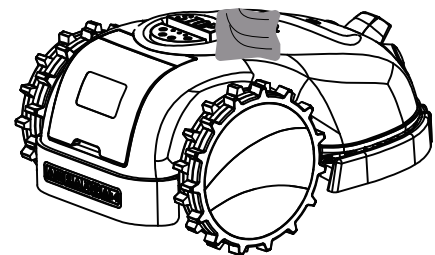
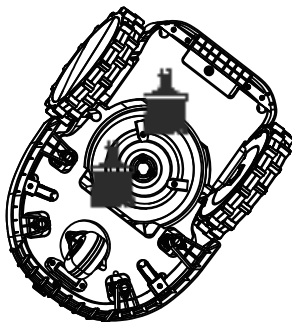

Fig.5-1-1
Fig.5-1-2
- Use a soft brush or towel to clean the front part (Fig.5-1-1, Fig.5-1-2).